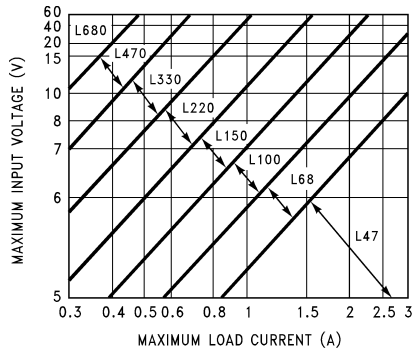
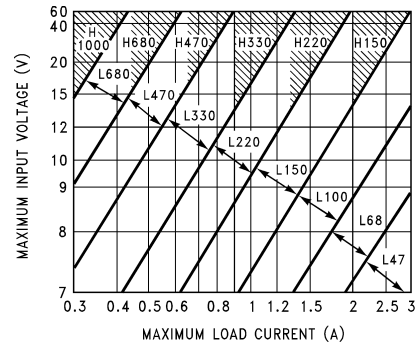
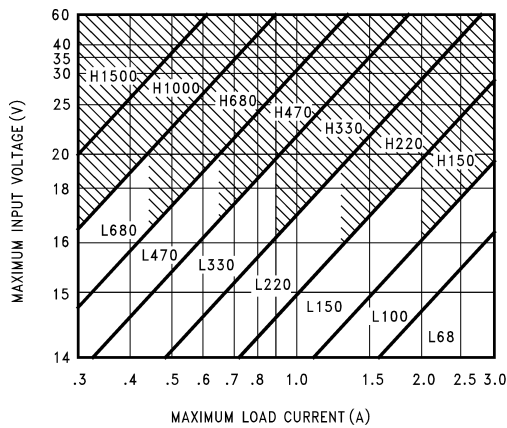
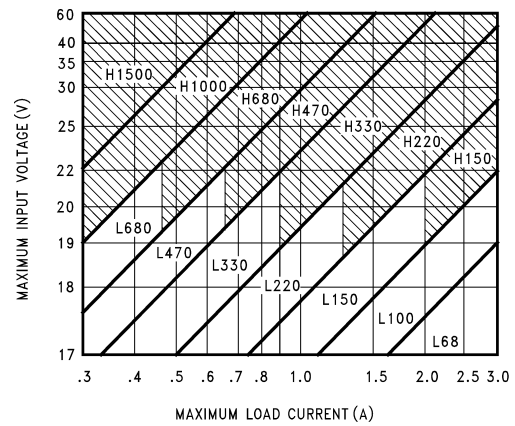

图 8-4. LM2576(HV)-3.3
图 8-5. LM2576(HV)-5.0
图 8-6. LM2576(HV)-12
图 8-7. LM2576(HV)-15
1. Select the correct Inductor value selection guide from 图 8-4, 图 8-5, 图 8-6, or 图 8-7. (Output voltages of 3.3 V, 5 V, 12 V or 15 V respectively). For other output voltages, see the design procedure for the adjustable version. Use the selection guide shown in 图 8-5.
- Identify the inductor value from the inductor code, and select an appropriate inductor from the table shown in Figure 8-4. Part numbers are listed for three inductor manufacturers. The inductor chosen must be rated for operation at the LM2576 switching frequency (52 kHz) and for a current rating of $1.15 \times I_{LOAD}$. For additional inductor information, see Section 8.1.2. Inductor value required is 100 μH from the table in Figure 8-4. Choose AIE 415-0930, Pulse Engineering PE92108, or Renco RL2444.